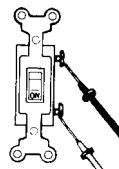

Figure 12
**Cut off the power source to the switch.** If necessary, remove the switch. Turn the switch to the ON position and touch the test leads to the switches terminals (see fig. 12). If the switch is good, the display should read -0- ohms. If the display doesn't change at all, replace the switch. On other than two-way SPST (single pole, single throw) switches such as three-way light switches or double pole double throw (ON-OFF-ON) switches, in each ON position you will need to alternate the test leads between the switches terminals to determine which two terminals control that ON position.